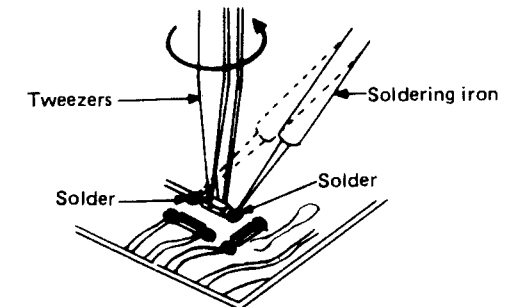

Fig. 22
2. Touch the soldering iron to the end of the chip as shown in Fig. 22, then turn the tweezers in the direction of the arrow.